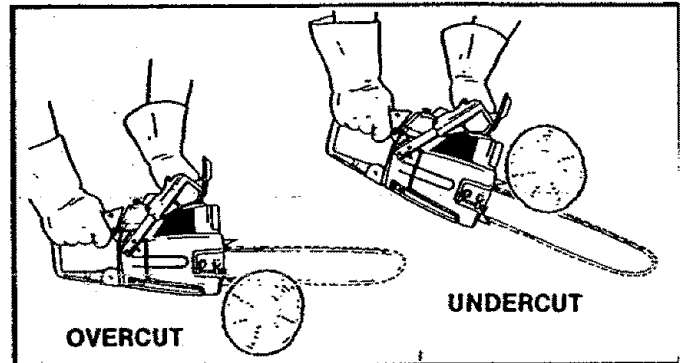

Figure 33
2. TYPES OF CUTTING USED Figure 33.